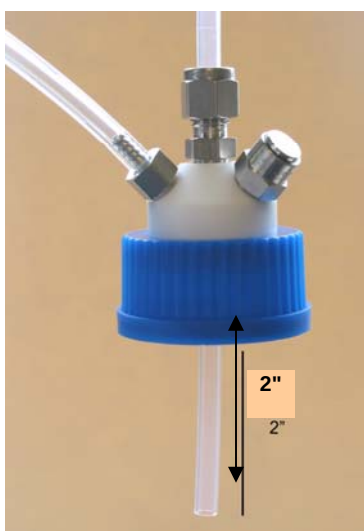

Figure 2-8: Drain Tubing Installation
- e) Install the nut and ferrule onto the drain tubing as shown in (Figure 2-5). Insert the drain tubing into the drain fitting (Figure 2-8) until it protrudes approximately 2" from the bottom of the cap (Figure 2-8). Screw the nut on to the fitting until it is finger-tight. Using the wrenches supplied in the accessory kit, hold the body of the fitting with the $\frac{1}{2}$ " end of one of the wrenches. Tighten the nut with the $\frac{9}{16}$ " end of the other wrench until it is snug, approximately three-quarters of a turn with the wrench.